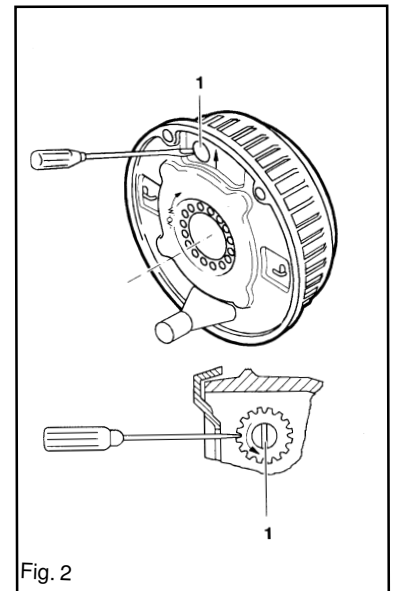

Fig. 2
5. ALWAYS rotating the road wheel in the forward direction - NEVER backwards; adjust the starwheel with a suitable screwdriver, in the direction of the arrow embossed on the backplate until there is resistance in the wheel rotation. (Fig. 2).
6. Slacken off the starwheel adjuster until the road wheel turns freely in the FORWARD direction. (Fig. 2).